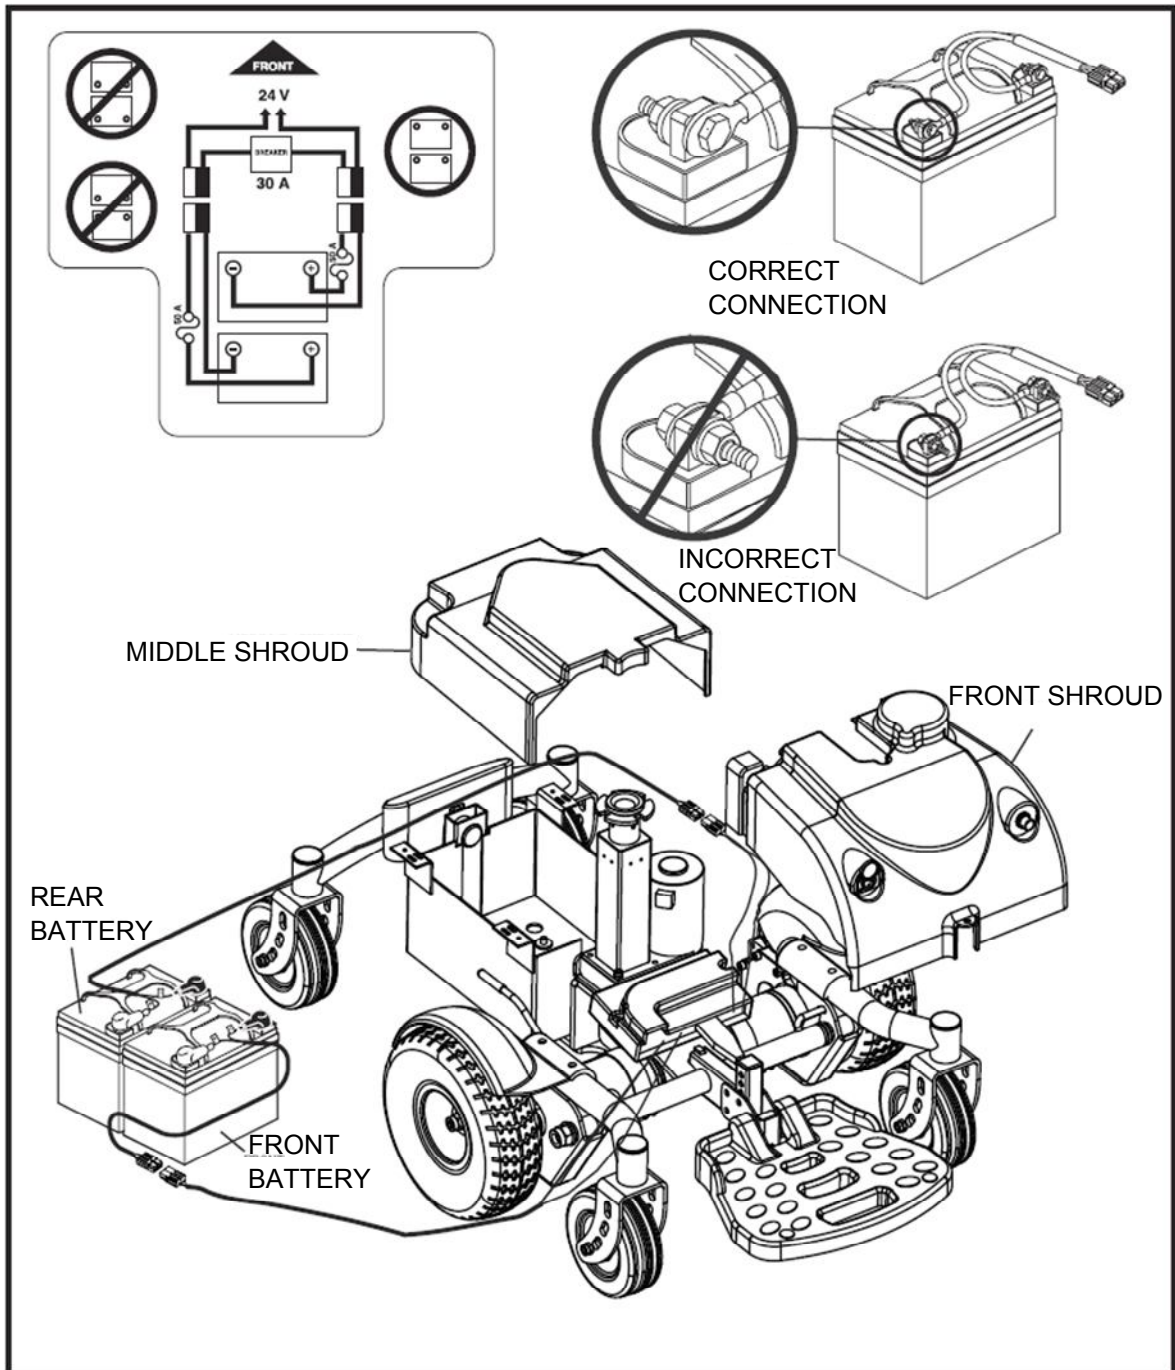

Figure 12
4. Disconnect the rear battery harness from the power base connection (see Figure 12).